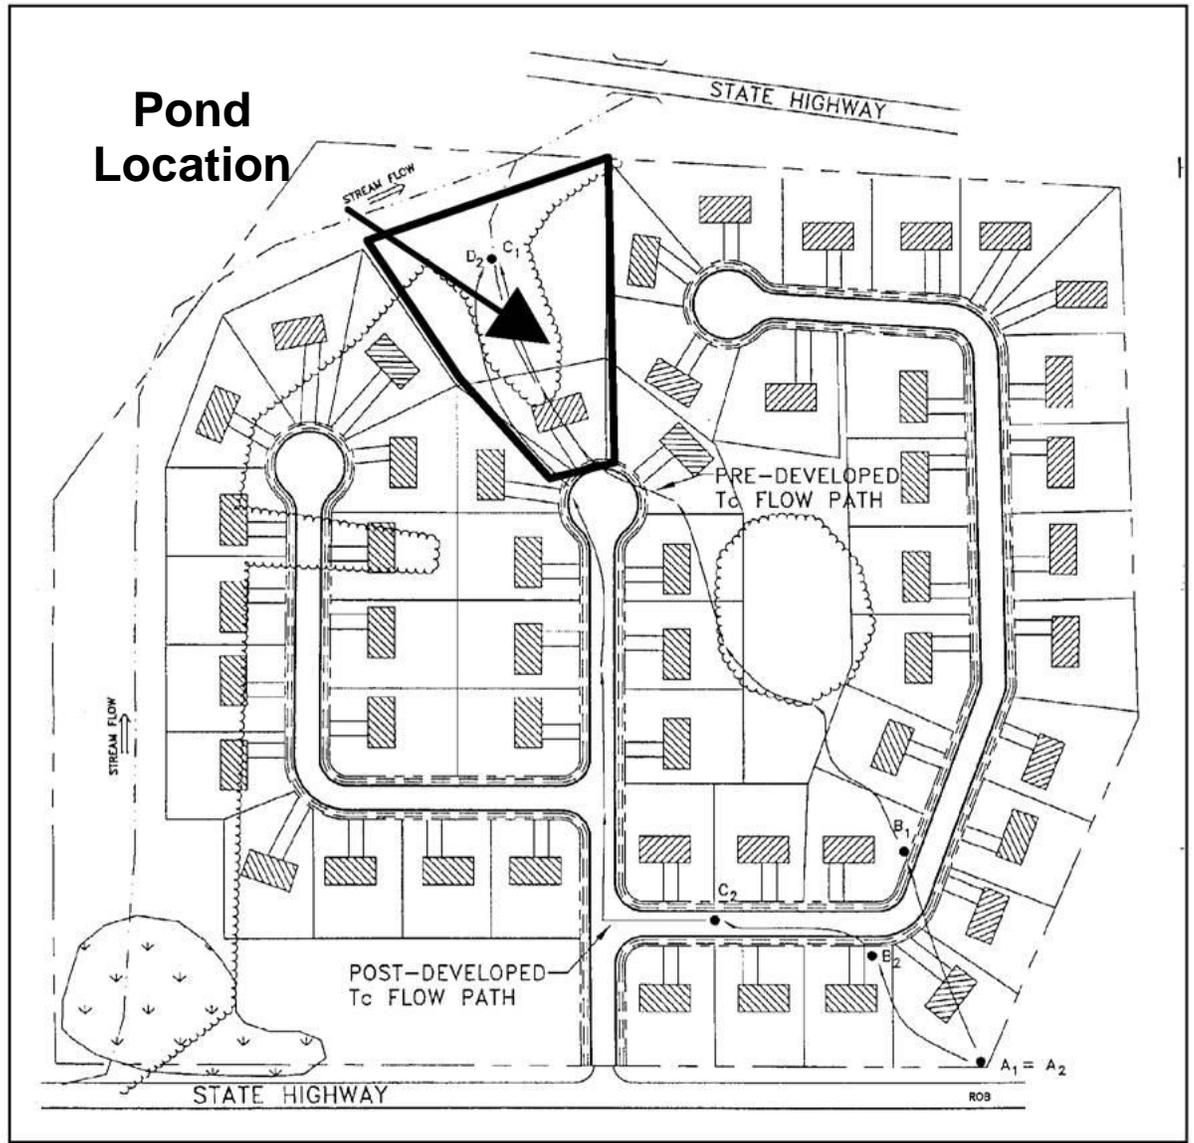
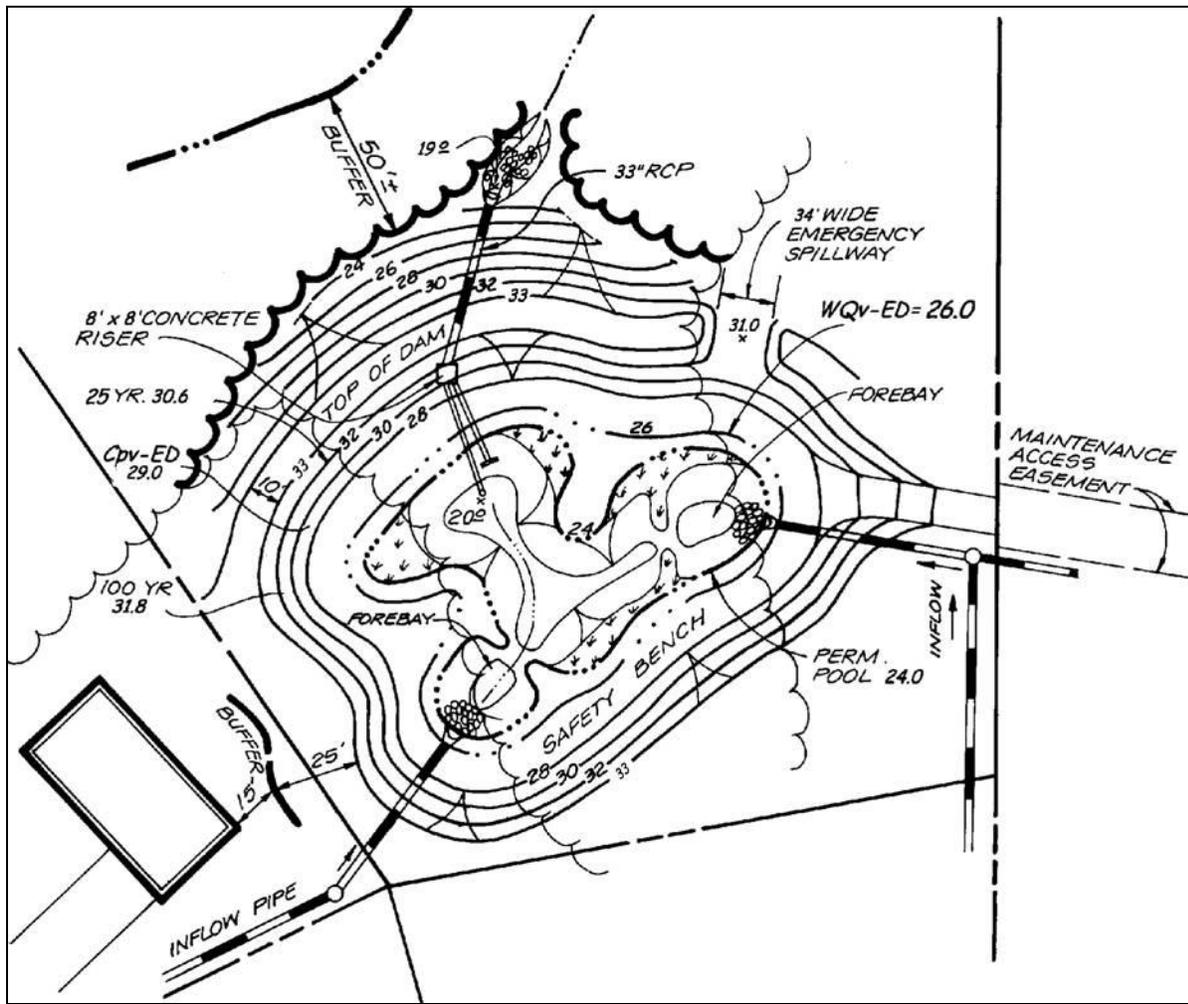
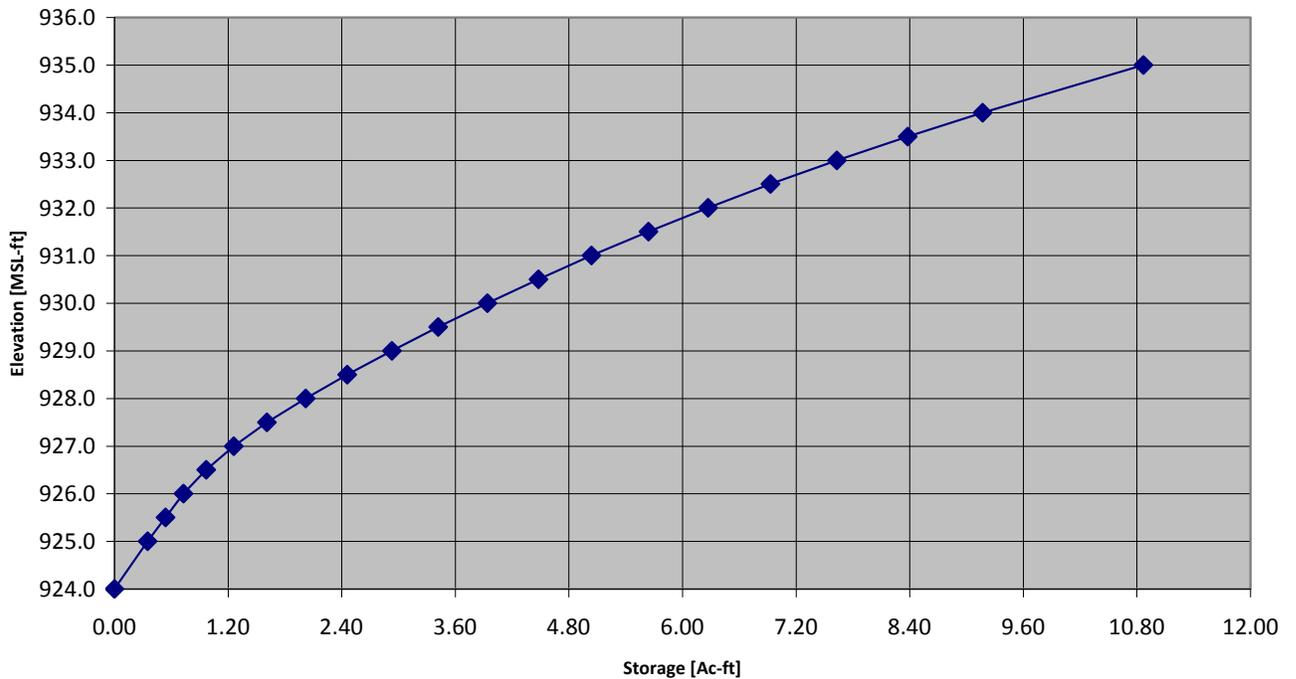

Figure 4. Pond Location on Site
Figure 5. Plan View of Pond Grading (Not to Scale)
Figure 6. Storage-Elevation Table/Curve
This step involves initially grading the pond (establishing contours) and determining the elevation-storage relationship for the pond. Storage must be provided for the permanent pool (including sediment forebays), extended detention (WQ_v -ED), Cp_v -ED, and 25-year storm, plus sufficient additional storage to pass the 100-year storm with minimum freeboard. An elevation-storage table and curve is prepared using the average area method for computing volumes. See Figure 4 for pond location on site; Figure 5 grading and Figure 6 for Elevation-Storage Data.
- From elevation-storage table (Figure 6), read elevation 930.1.